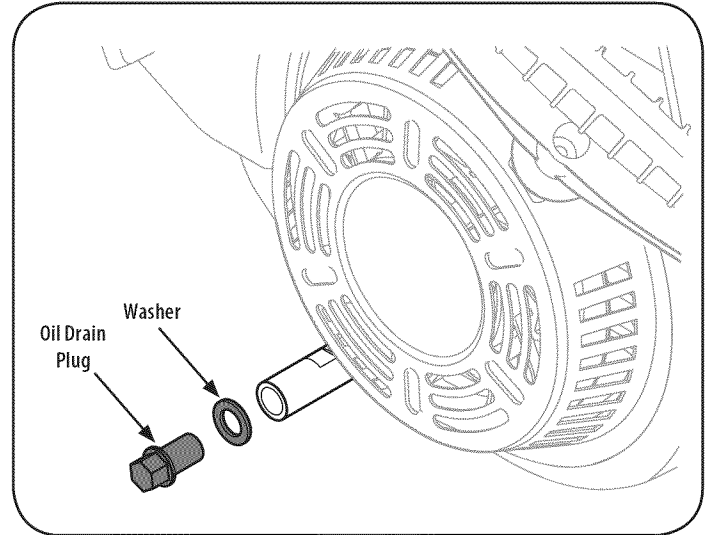

Figure 20
3. Remove oil drain plug. See Figure 20 on next page.